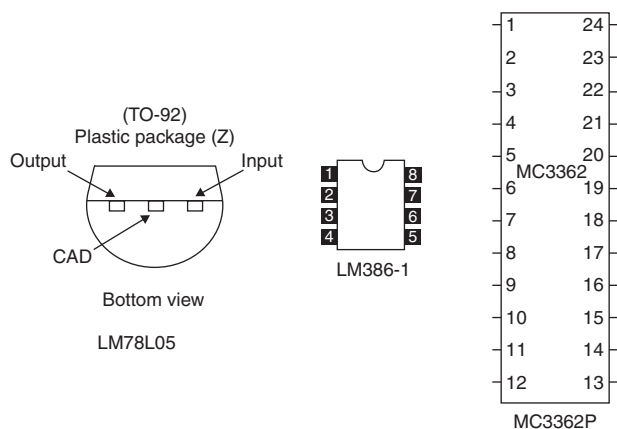

Figure 12-6 *Semiconductor pin-outs*
The 6N2 receiver utilizes three integrated circuits. Before we go ahead and install the integrated circuits, let's take a brief look at the semiconductor pin-out diagram shown in Figure 12-6. The main receiver chip U1 is the Motorola MC3362, a 24 pin dual conversion FM receiver on-a-chip which contains oscillators, mixers, quadrature discriminator, and meter drive/carrier detect circuitry all in one chip. The audio amplifier at U2 is an LM386 chip, while U3 is 5 volt regulator, an LM78L05. When installing the integrated circuits, you will need to identify the pin-outs of each of the integrated circuits. It is advisable to install IC sockets prior to installing the ICs on the circuit board, to avoid the rare event of circuit failure at a late date. It is much easier to simply unplug an IC and insert another without un-soldering a 24 pin chip from the circuit board. Integrated circuits will generally have a small cut-out at one end of the IC package or a small indented circle at one end of the chip. Pin one (1) of the integrated circuit will be to the left of these markings. Be sure to orient the IC before placing into its proper socket. Note that pin 1 of U1 will connect to the junction of capacitors C7 and C16.